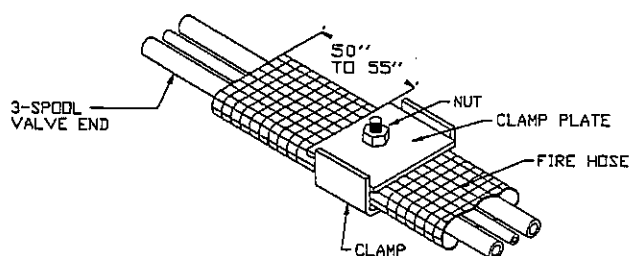

FIG. 4-45 FIRE HOSE INSTALLATION
**4-12.5** Install a 2-piece clamp 50" to 55" from the anchor point of the fire hose with the flat plate above the hose, and the U-plate under the hose. All lines must be side by side without crossing over each other! (See FIG 4-45)